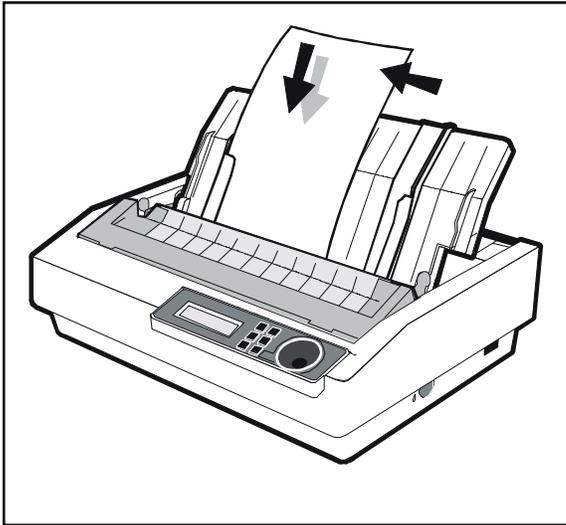

Figure 2-15. Loading a Cut Sheet
1. With the paper support raised, set a sheet of paper between the paper edge guides, as shown in figure 2-15. Make sure the left paper edge guide is aligned with the "0" mark (| 0) on the ruler and that the right paper edge guide is against the right side of the paper.